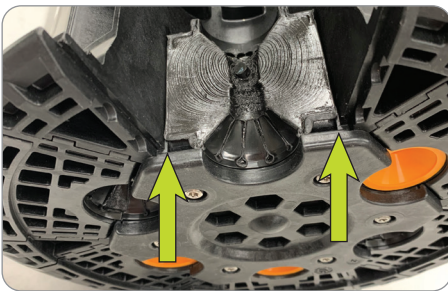

Figure 22
3. Engage sealing wedge pins into bottom of base. (Figure 22)